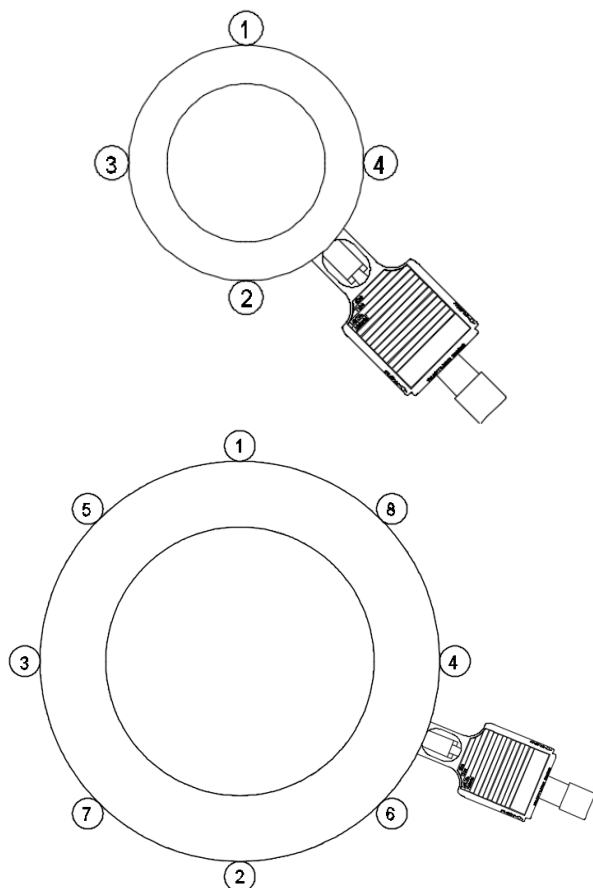

Figure 4: Recommended Torque Pattern with Integrated Burst Indicator
8. **CAUTION:** When installing a rupture disc with an integrated burst indicator, it is recommended the burst indicator be positioned between bolts at the end of the torque pattern as shown in Figure 4. This will put the burst indicator under the least amount of stress while torque is being applied.